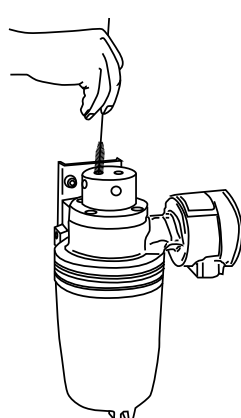

Figure 5.1 Cleaning the Vibrator
- (1) Close valves BV1 and NV4 and open NV2 and NV3.
- (2) Connect the air pipe to the outlet of the needle valve NV2. Purge the sample liquid in the vibrator from the drain port of the needle valve NV3 by blowing 0.05 MPa G air.
- (3) Remove the blind plugs from the pouring port of the standard solution (two places) and pour cleaning liquid about 200 mL into the vibrator.
- (4) After a while, fix blind plugs again on the pouring ports and purge the cleaning liquid in the vibrator as described in (2). Wash the inside of the vibrator pipe with a brush (accessory) as shown in Figure 5.1.